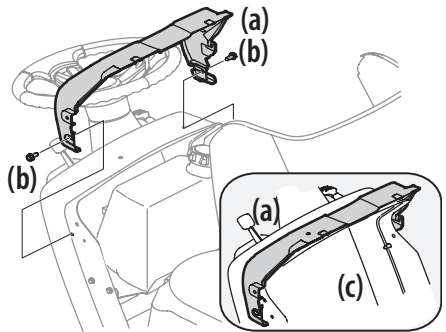

Figure 8
1. If the dash shroud (a) was shipped loose, the hardware for attaching the dash shroud (a) is shipped attached to the dash shroud (a). Remove the two bolts (b) from the dash shroud (a). See Figure 8.
2. Mount the dash shroud (a) and align the mounting holes between the top of the dash and the dash shroud. See Figure 8.
3. Secure the dash shroud (a) to the dash (c) with the bolts (b) removed in Step 1. See Figure 8.